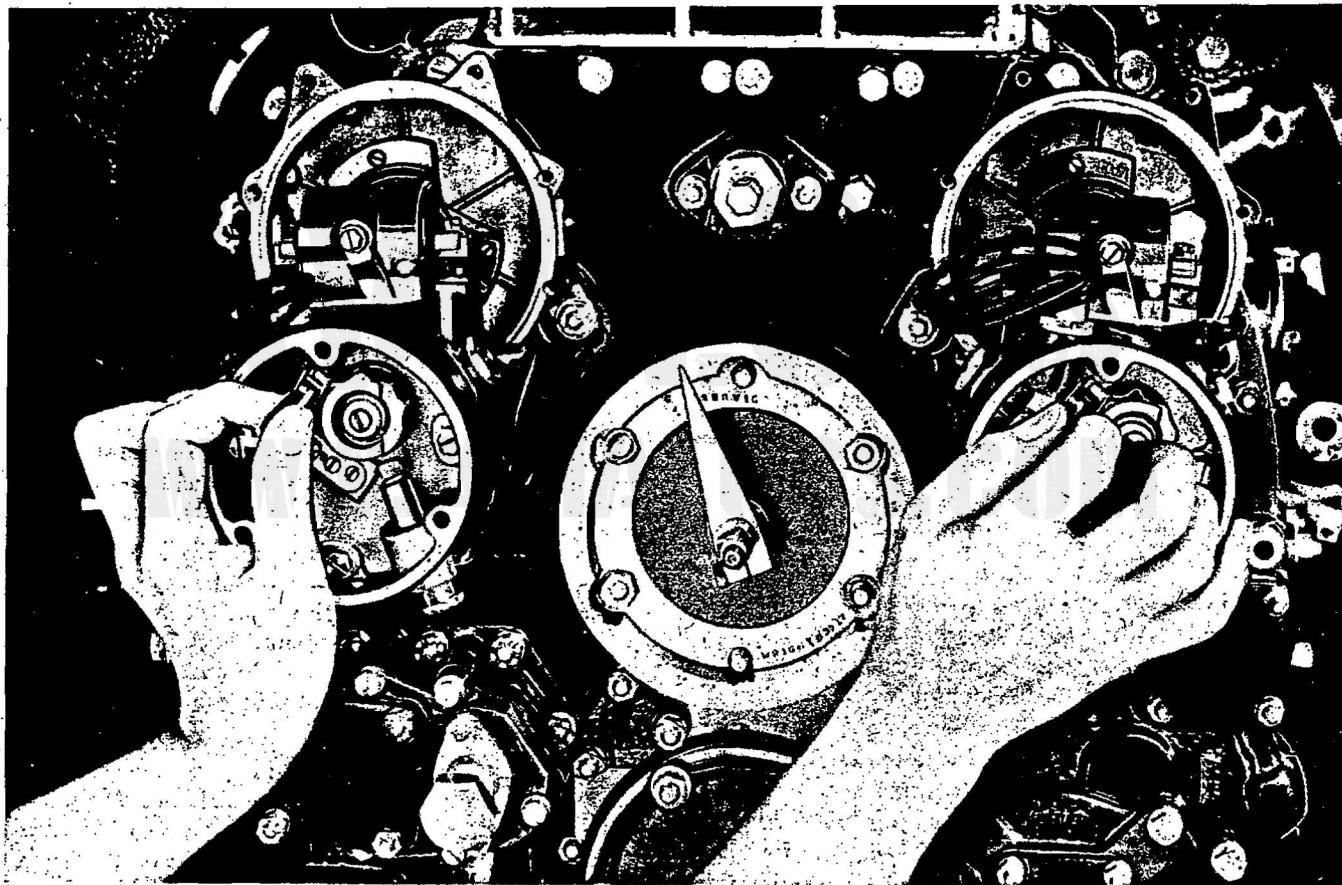

Figure 64—Timing Magnets
(6) If the points do not open and close when moving the magneto from side to side, withdraw it from the engine. Install the magneto coupling wrench over the splined drive shaft coupling to keep the shaft stationary, and remove the cotter pin, castellated nut, and washer which retain the coupling on the shaft. The coupling, which is fitted to the shaft by six slots on its inside diameter, should be withdrawn, turned to the next slot engaging position, and reinstalled on the shaft. Install the retaining washer and nut and check the opening and closing of breaker points with the magneto on the engine. When the results are satisfactory, withdraw the magneto to install the cotter pin in the coupling retaining nut, and reinstall the magneto on the engine as directed in paragraph (5) above. All adjustments must be made at the drive end of the magneto by changing the location of the coupling splines and not by altering the breaker point opening adjustment.
(7) Move the magneto in the direction opposite to crankshaft rotation until the breaker points open; connect the timing light, or insert the feeler gage between the points. Move the magneto as far as it will go in the direction of crankshaft rotation so that the breaker points have closed. Turn the magneto slowly back in the opposite direction until the breaker points are just beginning to open as indicated on the timing light or the feeler gage.
(8) Check the setting by turning the propeller backward a quarter of a revolution with the timing light connected or the feeler gage between the points. Rotate the propeller forward slowly, stopping when the points are just beginning to open as indicated by timing light or feeler gage. (See figure 64.) The crank angle degree reading observed on the reduction drive gear through the crankcase front section timing plug hole should correspond to the engine data plate spark advanced at the instant the points open as indicated by the timing light or the feeler gage. Install the cotter pins in the magneto flange attaching nuts when the correct spark advance has been established.
(9) Install the plug in the timing inspection hole in the crankcase front section with the copper-asbestos gasket under its head. Tighten and lockwire.
(10) Install the breaker housing cover and tighten the two hex-head cap screws which are retained in the